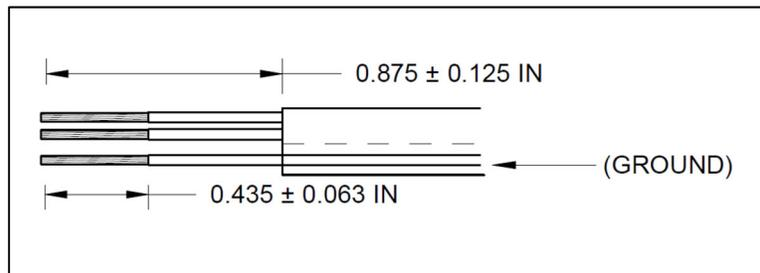

Figure 8.3. Power cable and extension cord preparation. Note: **Do Not** Tin wire.
2. Wire Preparation: Strip jacket and conductor wire insulation. Refer to Figure 8.3.